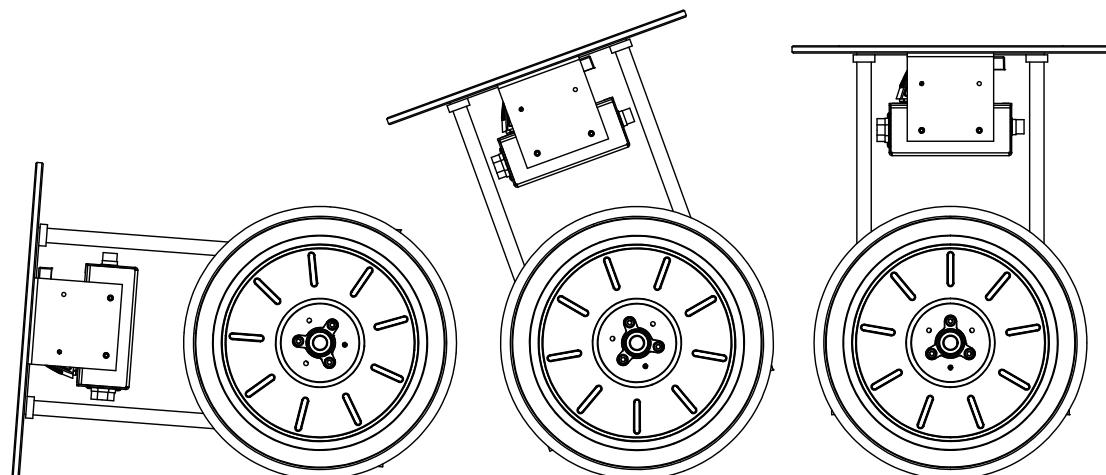

Figure 21: Tip the RMP Upright When Entering Balance Mode
4. Tip the RMP upright until it is vertical (see Figure 21).